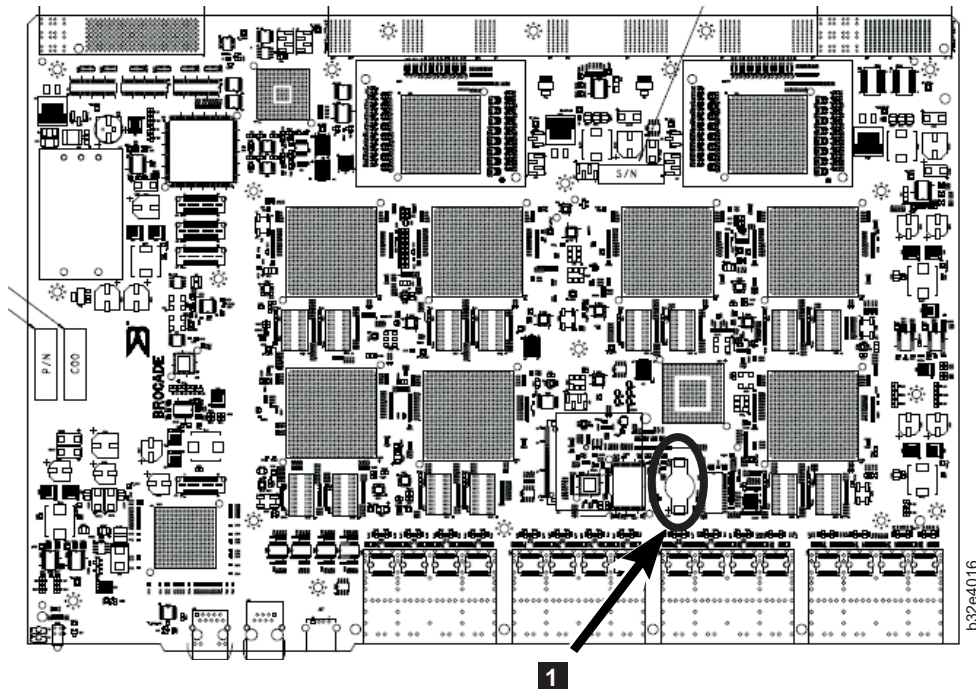

Figure 52. Encryption blade battery location
7. For the optional FS8-18 encryption blade, go to the BC1 location (see **1** in Figure 52 on page 108) on the main board and remove the BR1225 battery.